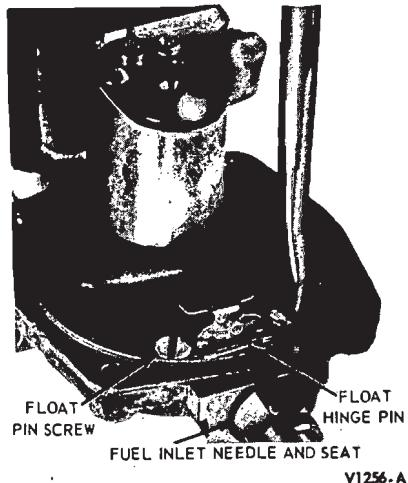

FIG. 11—Fuel Bowl Float Removal
8. Remove the float pin attaching screws, float, pin and fuel inlet needle valve and seat assembly from the body casting (Fig. 11).